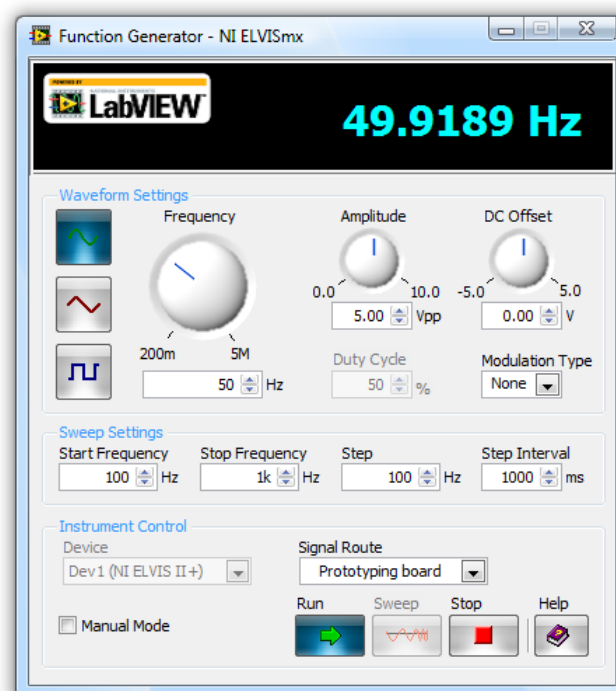

Figure 4.3: NI Elvis II Function Generator
2. Launch function generator and set 5Vpp, 50 Hz, Sine wave as shown in the figure 4.3.